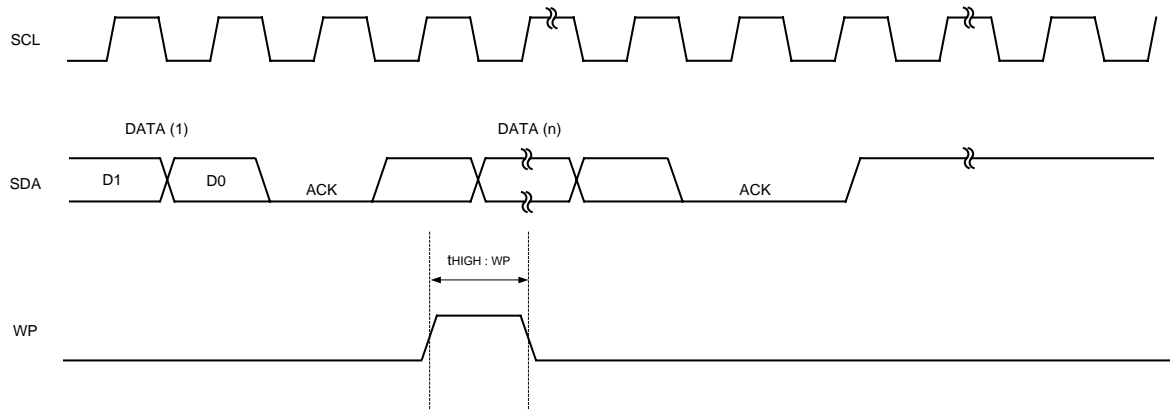

Fig.6(b) WP TIMING OF THE WRITE CANCEL OPERATION
- For the WRITE operation, WP must be "LOW" during the period of time from the rising edge of the clock which takes in D0 of first byte until the end of  $t_{WR}$ . ( See Fig.6 (a) )